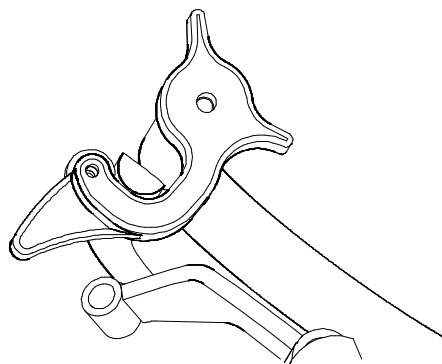

FIGURE 15
1. With rear of machine still on jack stands and engine running at full throttle, disengage the park brake and move the speed control lever to the midway position. Move the respective drive lever upward until it reaches the **neutral** position and engage neutral lock latches. See Figure 15. If the tire rotates in either direction, the length of the drive lever link will need to be adjusted.